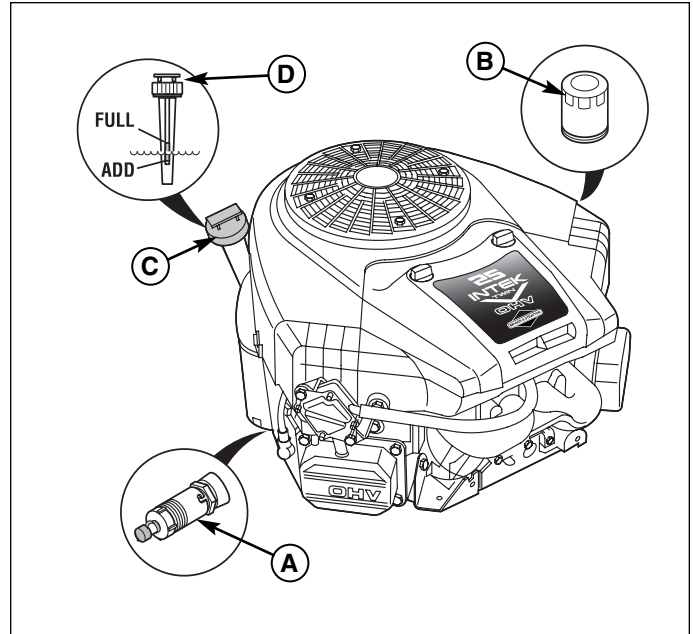

Figure 3. Briggs & Stratton two cylinder Models
2. Clean the area around the dip stick (C, Figure 3).
3. Remove the dip stick (C) and clean it with a paper towel.
4. Insert the dip stick (C) back into the engine and thread the cap back onto the tube.